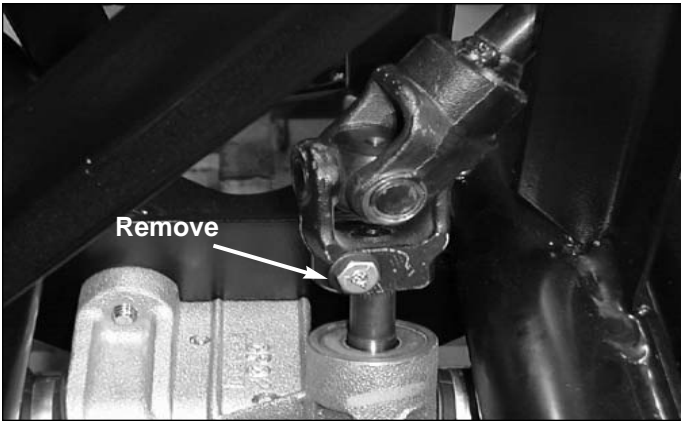

Figure 2 - Disconnect Steering Shaft
- Remove steering shaft clamp bolt securing steering shaft to pinion gear of rack and pinion assembly. See Figure 2.